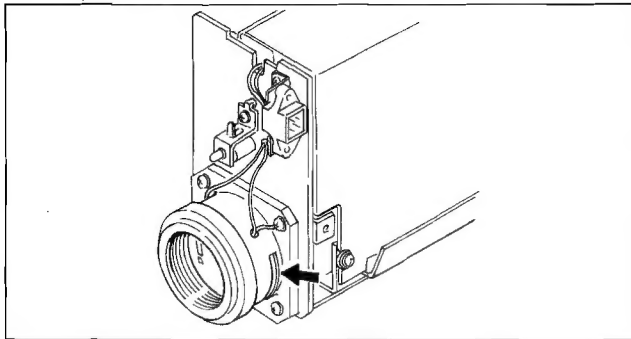

Fig. 6-1. Flange back adjustment
3. Insert the tip of a flat (-) head screwdriver into the slit on the lens mount as shown in Fig. 6-1. Turn the flat (-) head screw driver clockwise or counterclockwise slowly around the lens mount using the screwdriver, for the sharpest possible picture on the monitor. Repeat steps 2 and 3.